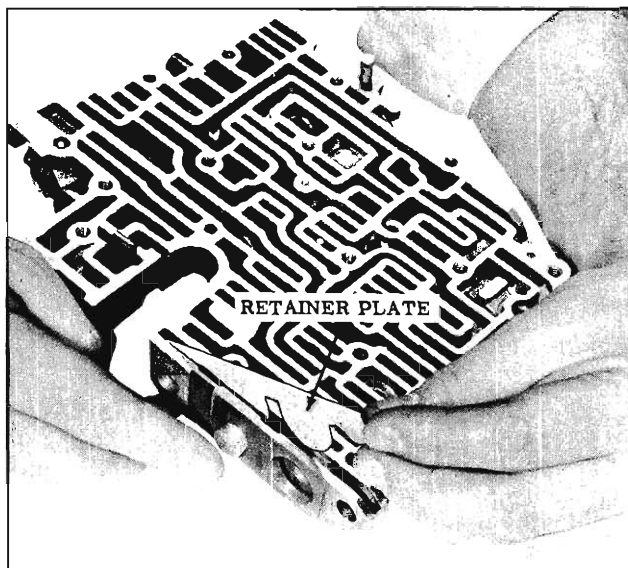

Fig. 6-89 Installing Retainer Plate
28. Install valve bore plug in valve body compressing and partially installing multiple plug retainer. Install retainer in such a manner that only one corner of the plug is retained. This will permit the installation of the remaining valves. (Fig. 6-89)